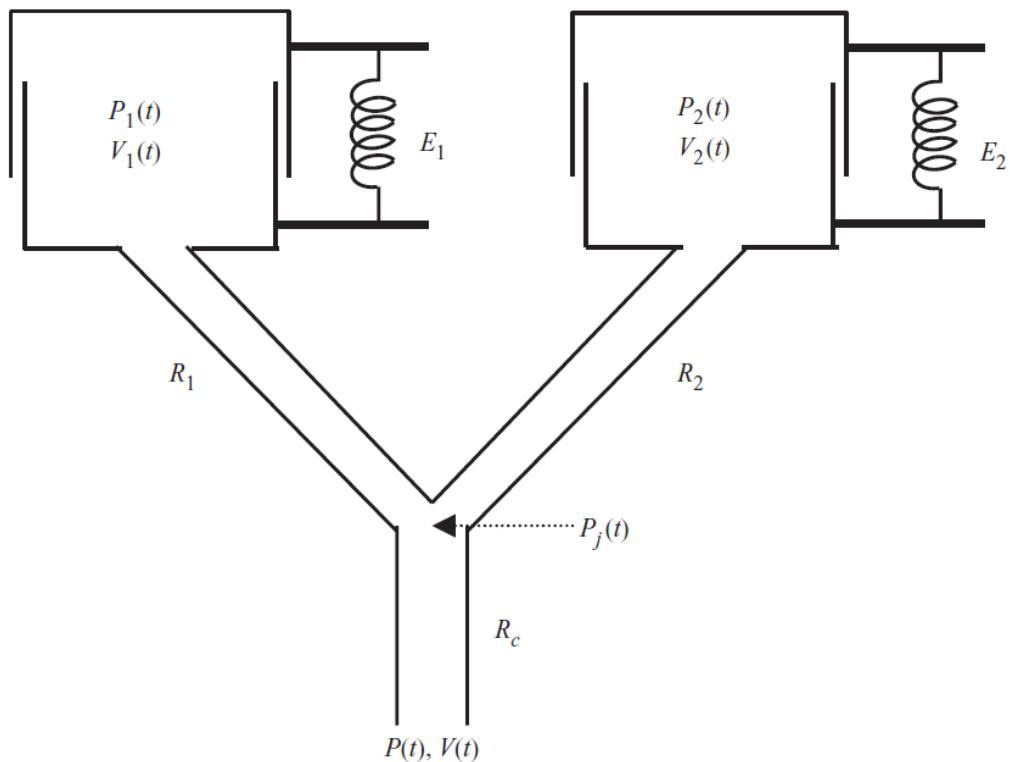

Fig 1: Two-compartment model
3. Consider a patient mechanically ventilated and whose respiratory system is modelled with the linear two-compartment model depicted in Figure 1. The patient is ventilated in pressure-control mode. This mode delivers a square pressure waveform: $p = p_{max} = 20$ cmH₂O during inspiration and $p = 0$ during expiration, the length of the expiratory phase is twice as long as the length of the inspiratory, the respiratory rate is 20 breaths per min, and the PEEP is 5 cmH₂O.